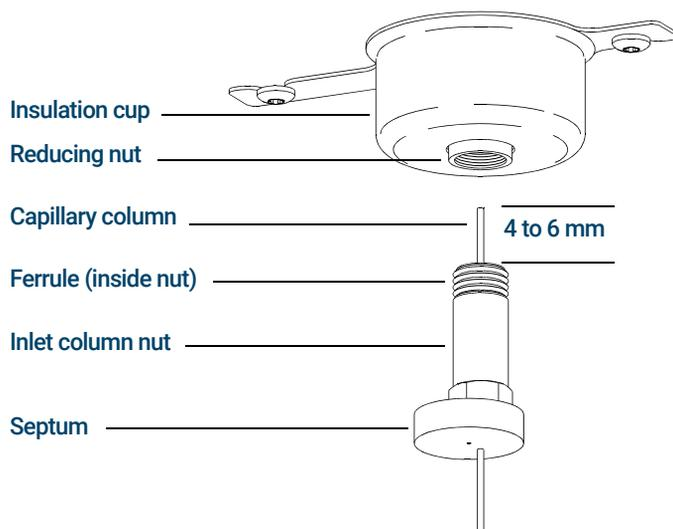

Figure 4. Installing a capillary column for a split/splitless inlet
- 7 Position the column so it extends 4 to 6 mm past the end of the ferrule. (See **Figure 4.**)